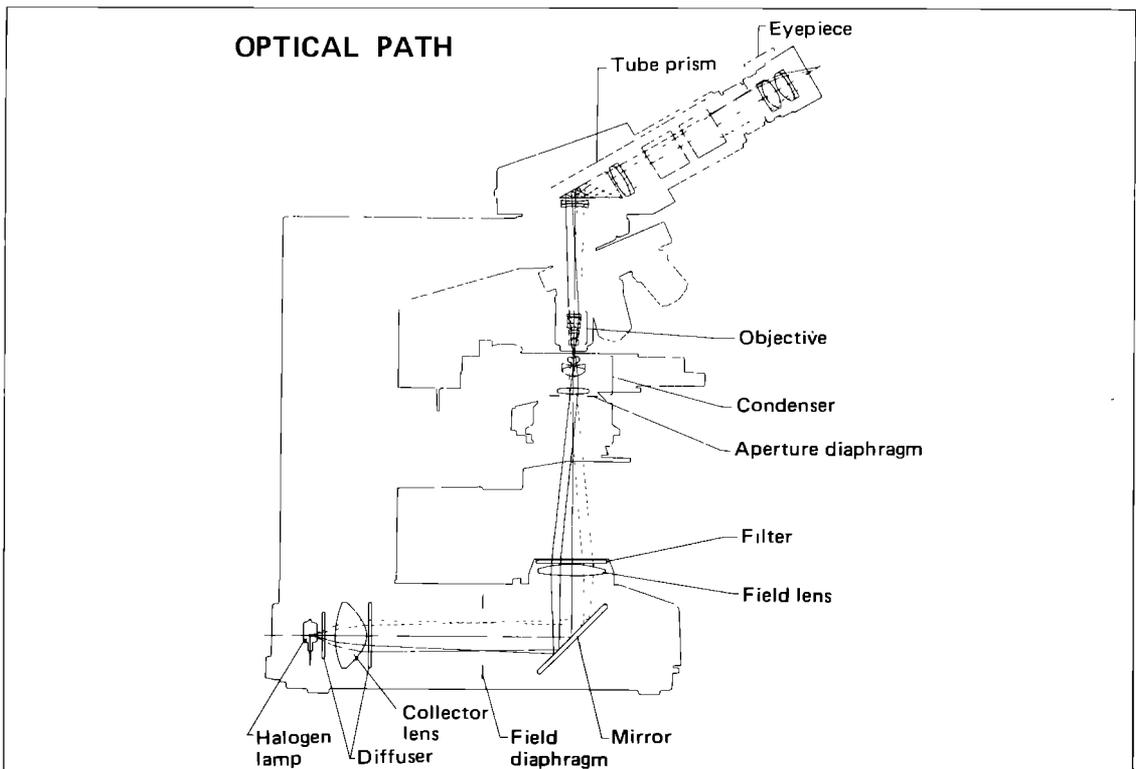

Fig. 15
4. Illumination System (Fig 15)